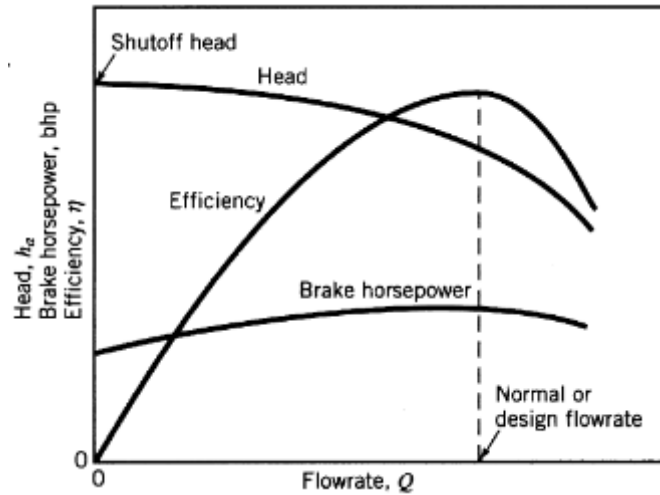

Figure 2. Typical performance curves for centrifugal pump [2].
The actual head rise (H) produced by a centrifugal pump is a function of the flowrate (Q). It is possible to determine the head-flow relationship by appropriate selection of the geometry of the impeller blades. Normally, pumps are designed so that the head decreases with increasing flow since such a design results in a stable flowrate when the pump is connected to a piping system. A typical head flow curve for a pump is shown in Figure 2.